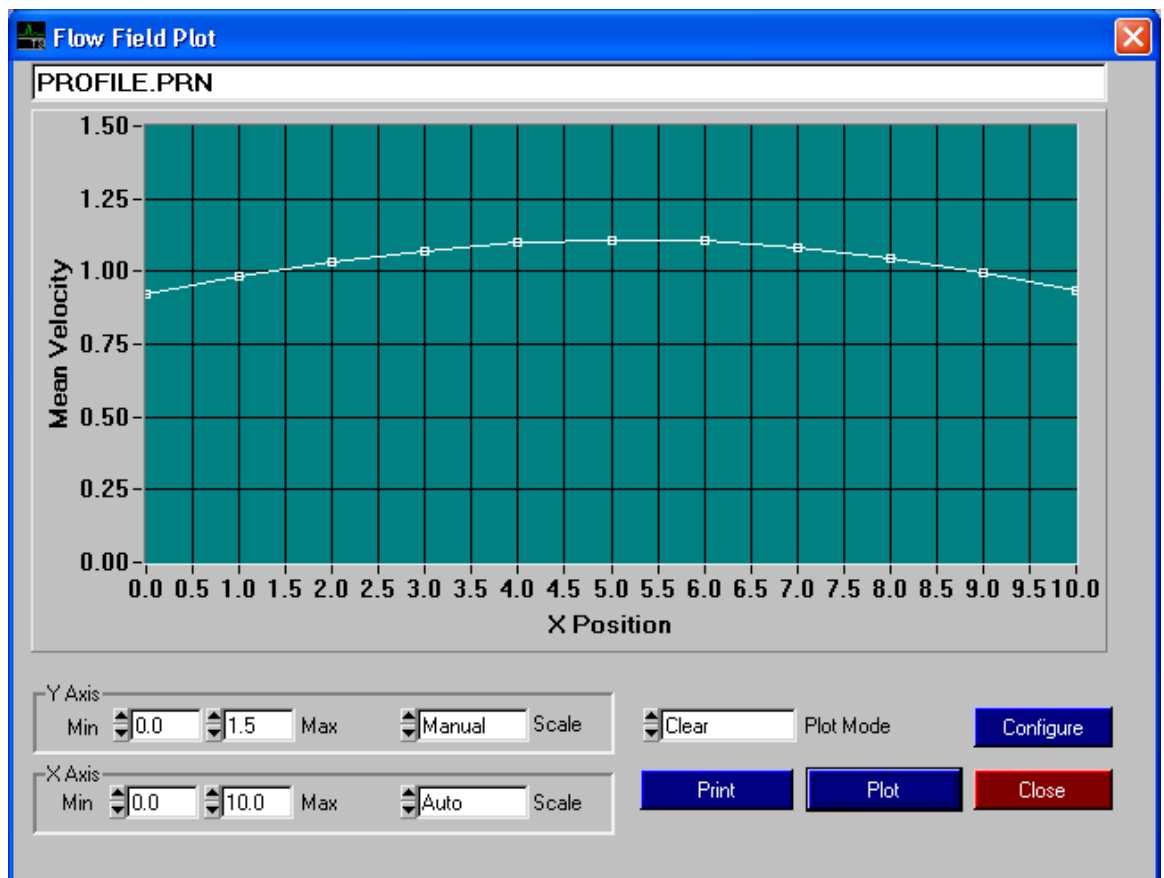

Figure 7-16
5. Click on **Next Screen** to proceed to the Flow Field Plot screen (Figure 7-16).